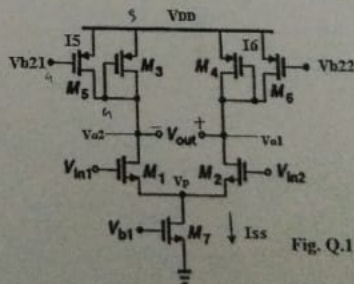

Fig. Q.1
- Q.1. Consider the circuit shown in Fig. Q.1 $V_{in1}-V_{in2}=V_{in}=10\text{ mV}$. Under matched conditions, dc current $I_{M1}=I_{M2}=I_{SS}/2=50\text{ }\mu\text{A}$. Given $C_L=5\text{ pF}$ and $V_{ov}=0.2\text{ V}$ for all transistors. Assume matched transistors in differential arms and impedance r_{o7} is very high. All transistors operate in active region.